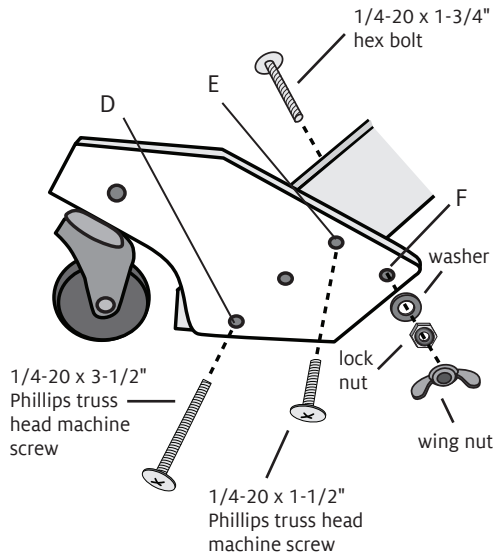

FIGURE 3: FRONT CASTER BLOCK AND INSIDE LEG
3. Set a caster block on the outer side of an inside leg, with the caster wheel toward the front and the floor (Figure 3). Line up hole [D] at the bottom of the caster block to hole [A] in the leg. Insert a 1/4-20 x 3-1/2" Phillips truss head machine screw through the bottom hole [D] in a caster block, then through the bottom hole of an inside leg height extender block (Figure 3). Thread the machine screw into a barrel nut in the treadle support and tighten, using a slotted screwdriver to hold the barrel nut in position. Repeat with a second caster block and the other inside leg.
4. Insert a 1/4-20 x 1-1/2" Phillips truss head machine screw into the top hole [E] of a caster block (Figure 3). The screw will thread into an insert in the height extender block that you cannot
5. Attach the hex bolt to hold the front of the stroller bar: From the inside of the loom, insert a 1/4-20 x 1-3/4" hex bolt through hole [F] in the front caster block. Secure with a 1/4" washer and a 1/4-20 lock nut. Place a 1/4-20 wing nut on the bolt (Figure 3). Repeat for the other front caster block.